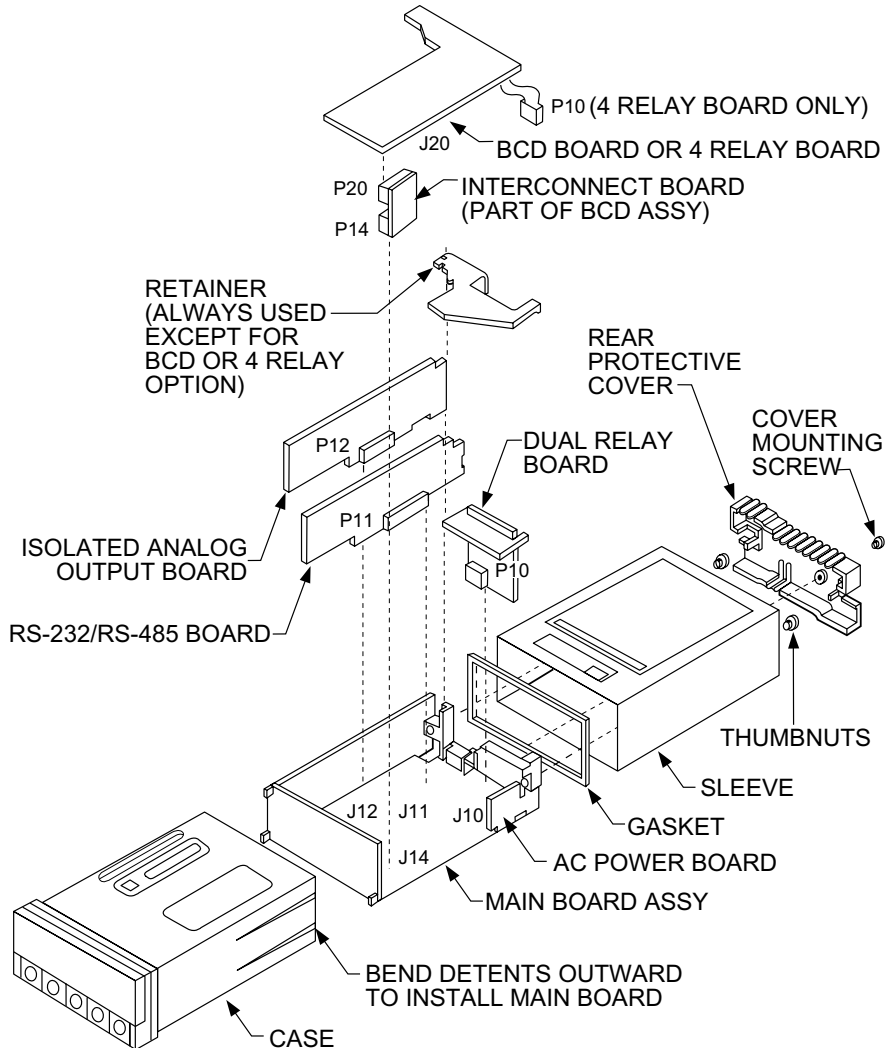

Figure 5-4. Optional Printed Circuit Board Locations
2. Using Figure 5-4 as a reference, insert option board(s) into the corresponding slot(s) on the main board. Each circuit board is keyed to fit in it's own position.